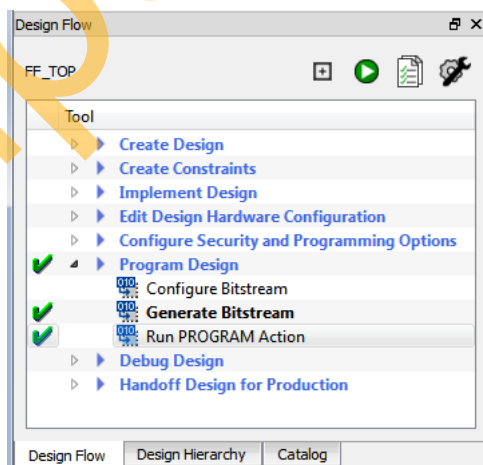

Figure 8 • Program the Design
5. Expand **Program Design** in the **Design Flow** window. Double-click on **Run PROGRAM Action** to begin programming as shown in Figure 8. A green check mark will appear next to the **Program Design** in the **Design Flow** window to indicate programming is completed successfully.